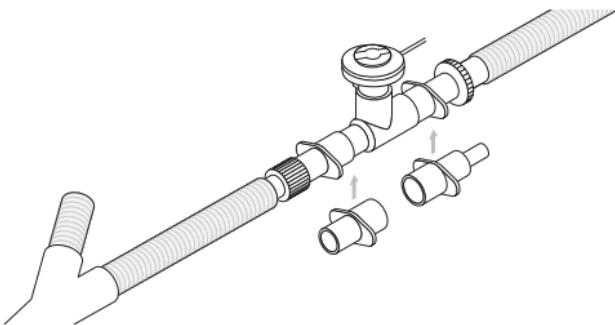

Figure 7. Connecting to a paediatric breathing circuit
2. For paediatric breathing circuits, connect the nebuliser with the paediatric T-piece into the inspiratory limb of the breathing circuit before the patient Y (Figure 7).
1. For **neonatal breathing circuits**, connect the nebuliser with the paediatric T-piece and the neonate adapters approximately 30 cm (12 in.) back from the patient Y (Figure 7). Alternatively connect the nebuliser with the Neonate T-piece 30 cm (12 in.) back from the patient Y (Figure 8).